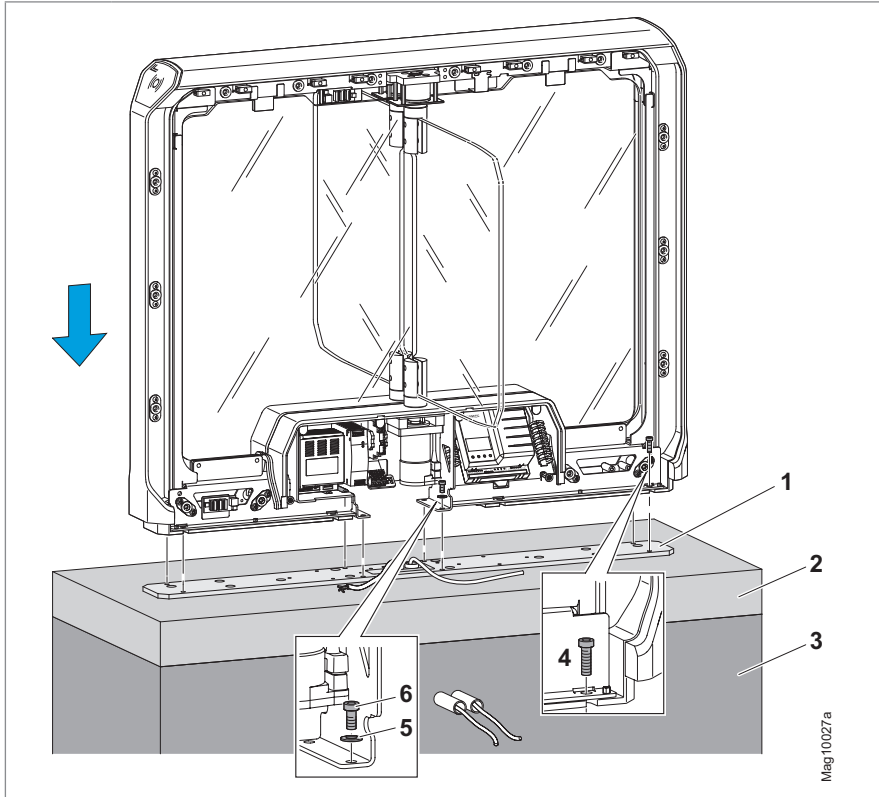

Fig. 31: Mounting variant 3
12. Place mWing on base frame. ↗ Page 60, Fig. 31.